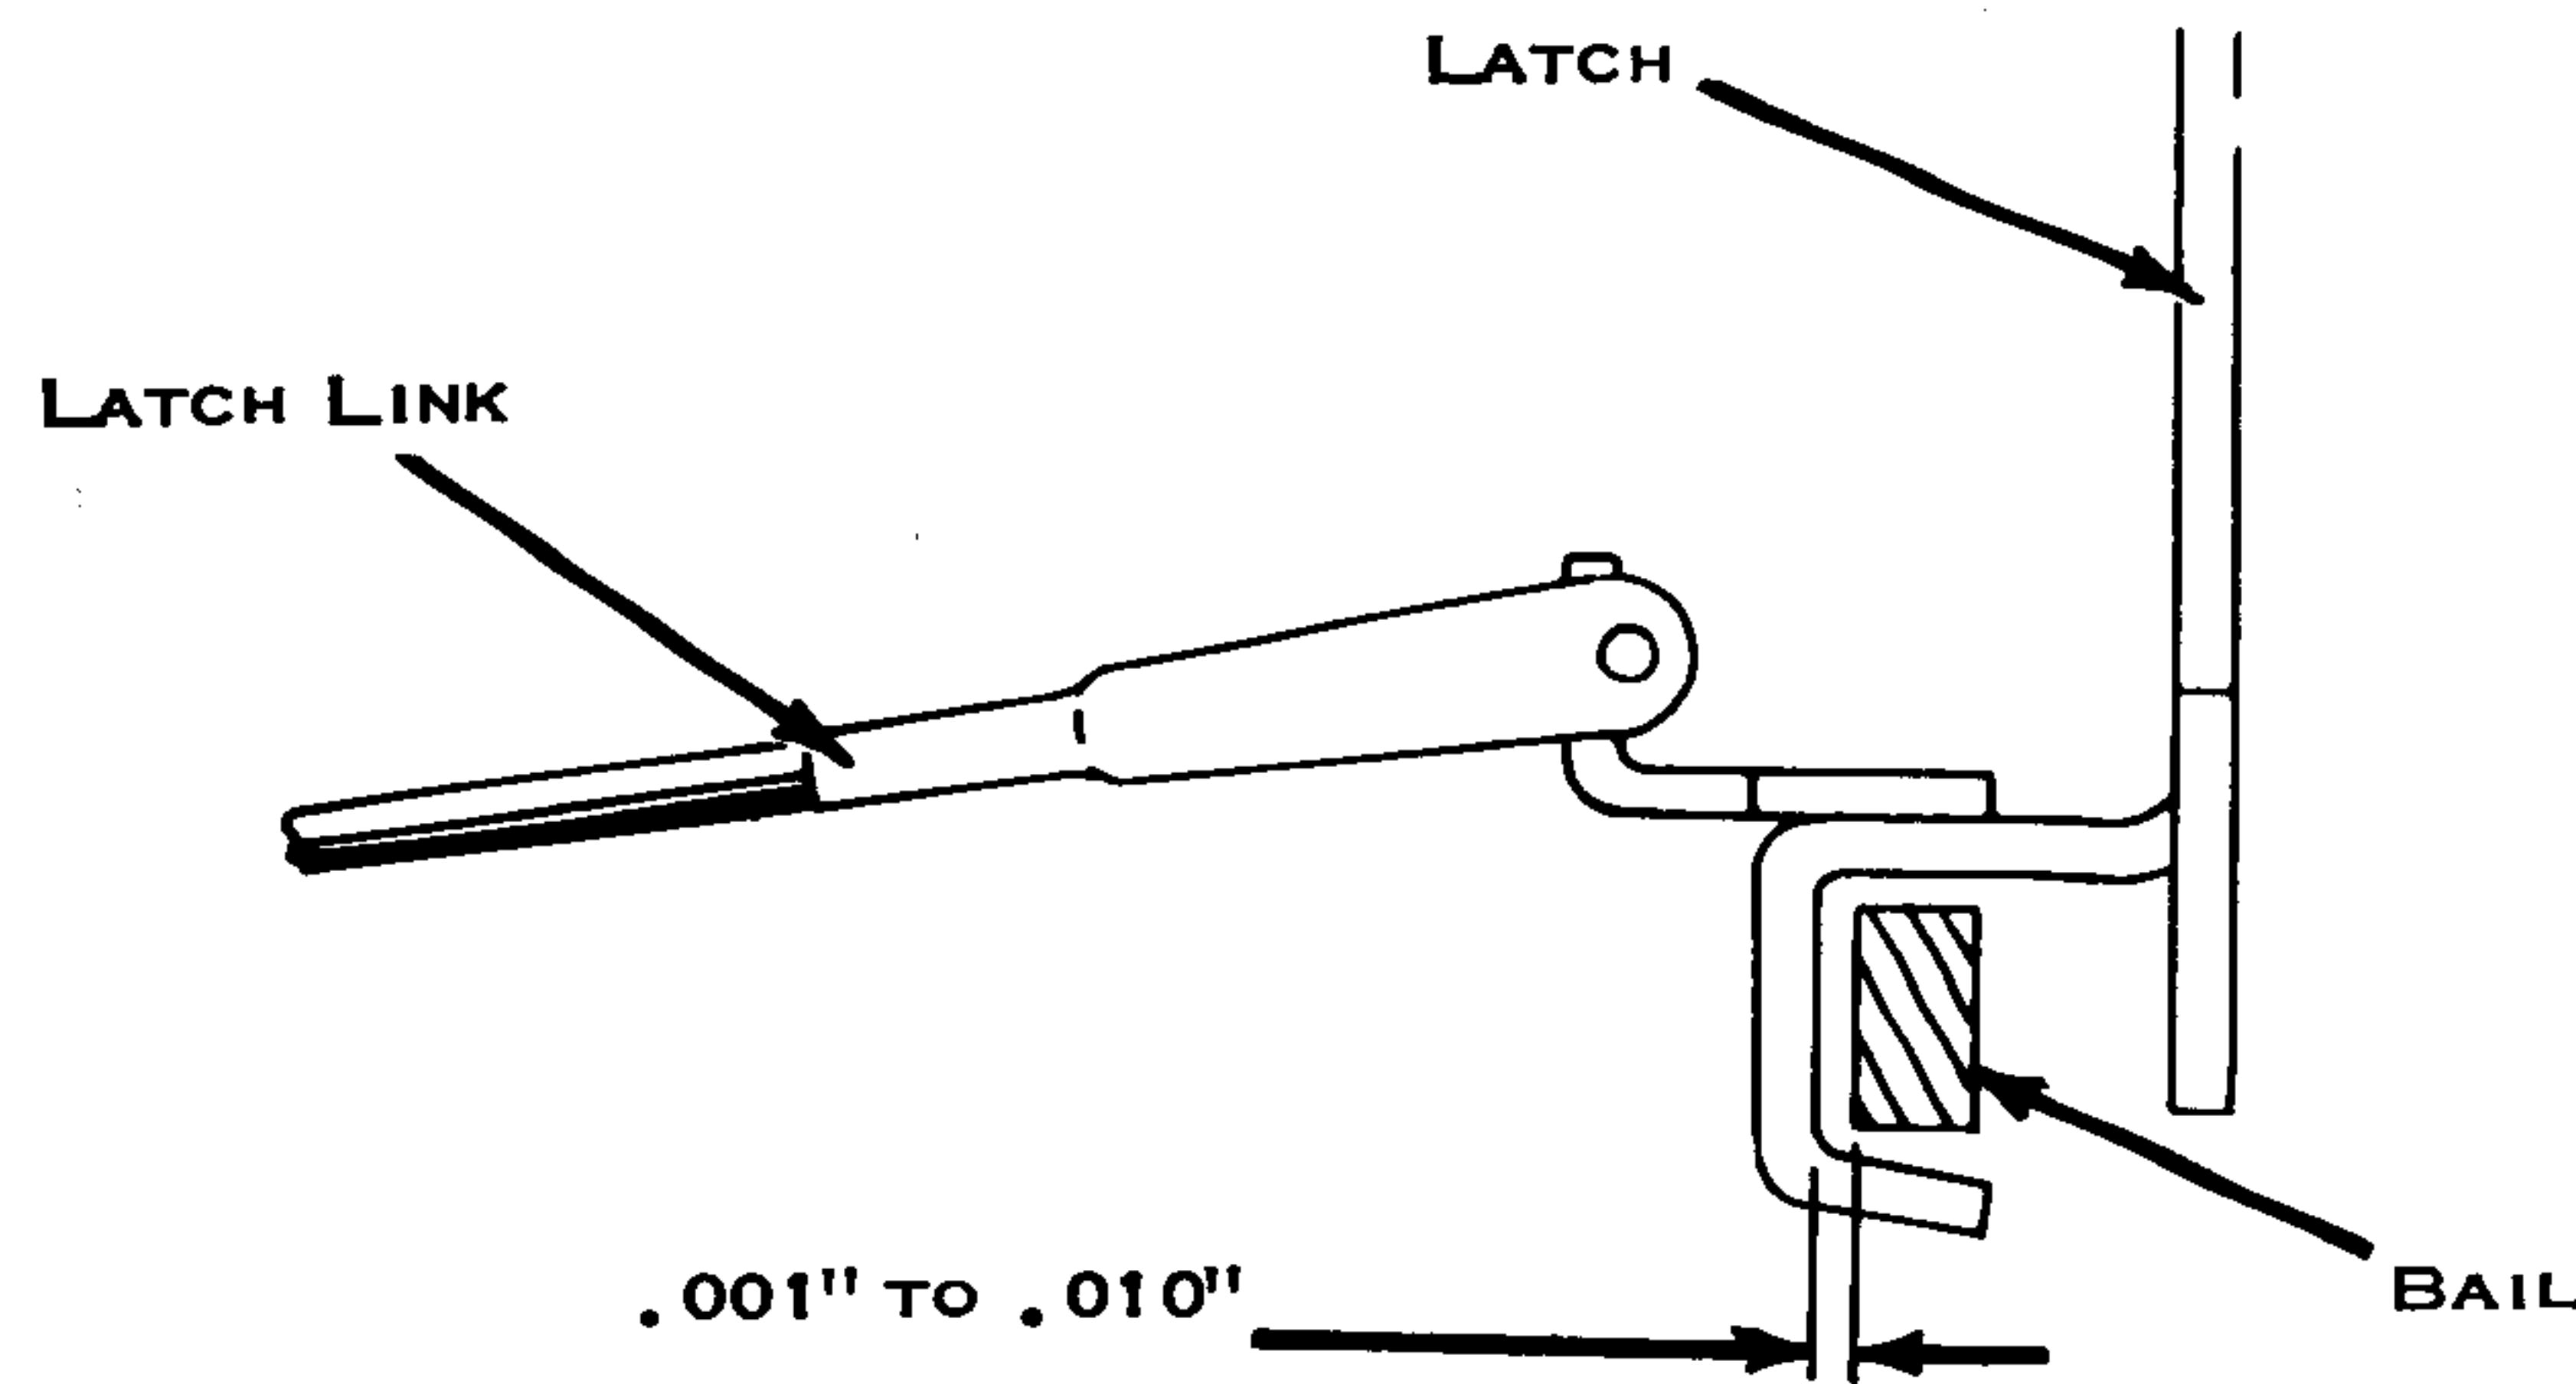

Figure 55. Check Latch Link
- a. Check Latch - Latch clears bail by .001" to .010" (Fig. 55).